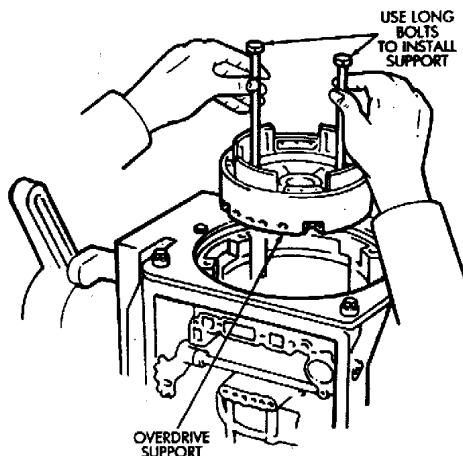

Fig. 37 Installing Overdrive Support
(45) Install overdrive support in case. Use two long bolts to help align and guide support into position (Fig. 37).